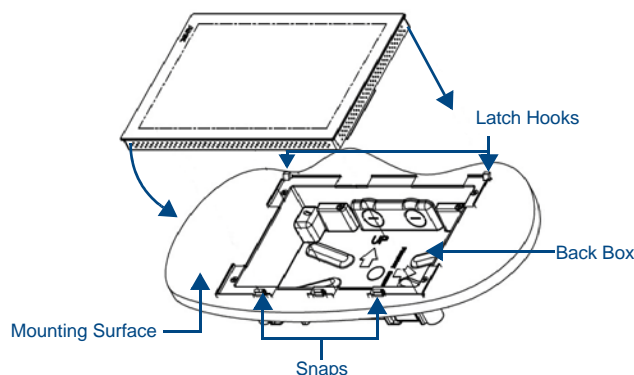

FIG. 5 Installing the MXD-1000
7. Latch the panel onto the top hooks on the back box and rotate it down (Landscape) onto the bottom snaps or on the left side and rotate it to the right (Portrait installation) (FIG. 5). Press gently but firmly on the ends until the snaps "click" to lock it down.